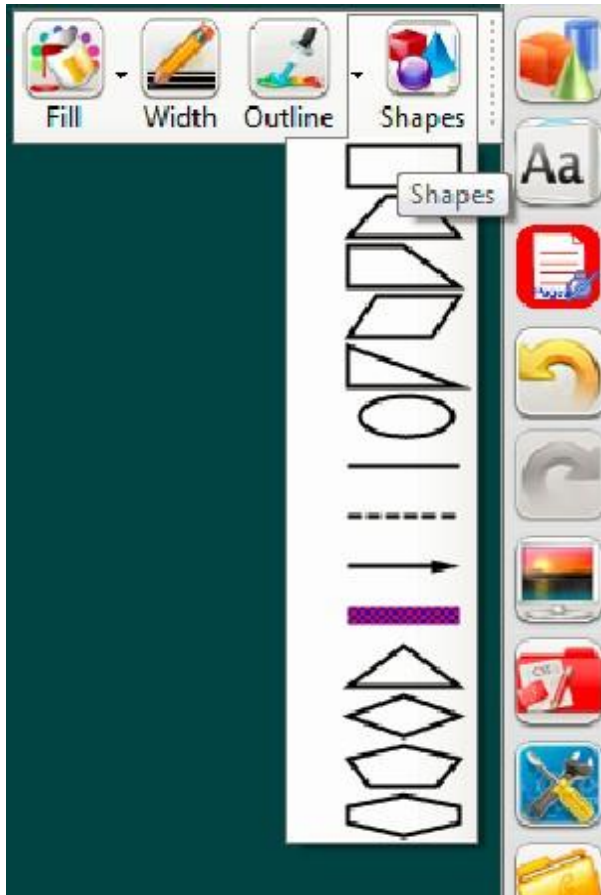

Fig3.2.4
6) Shape button, see menu as fig3.2.4, choose different shape and set up